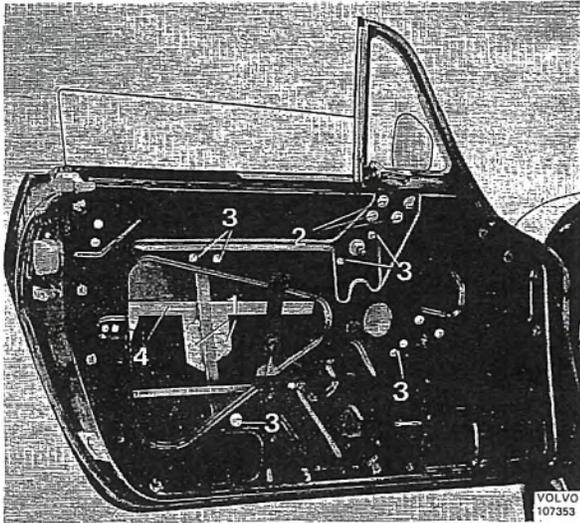
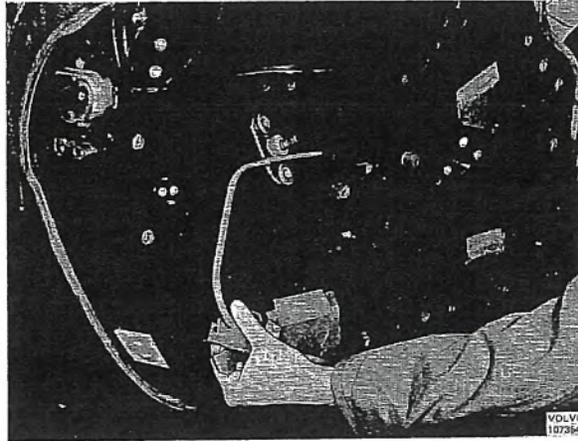

Fig. 8-26. Door inside
Fig. 8-28. Taking out window winder
2. Fit the winding handle and wind the window to such a position that the screws (1, Fig. 8-26) for the winding rail attachment to the winding mechanism is accessible.
5. Release the screws securing the frame to the ventilation window in the door, three at the top (2, Fig. 8-26) and one at the bottom of the winding rail. Lift off the ventilation window with frame.
7. Undo the screws (3, Fig. 8-26) securing the window winder and take out the winding mechanism as shown in Fig. 8-28.
1. Install the winding mechanism in the door and screw it tight with the screws (3, Fig. 8-26).